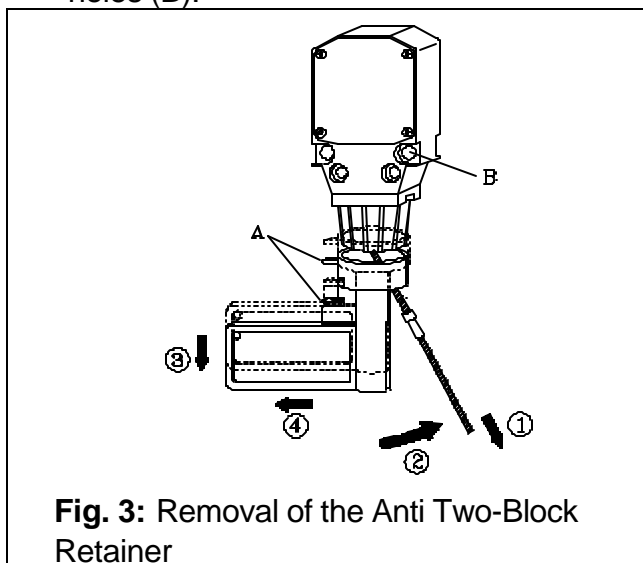

**Fig. 1:** Setting of Anti Two-Block Retainer in Locking Position
Locking Procedure (see Fig. 1 and 2): Pull the cable out of the switch and bend back parallel to the boom and hold (1). Slide the retainer from left side with its slot over the cable between the crimped stop and the switch (2). Push it firmly straight onto the cable guide of the Anti Two-Block switch (3). Straighten the cable completely into the slot and release the cable (4). Turn the flag of the retainer for best visibility for the operator (5).